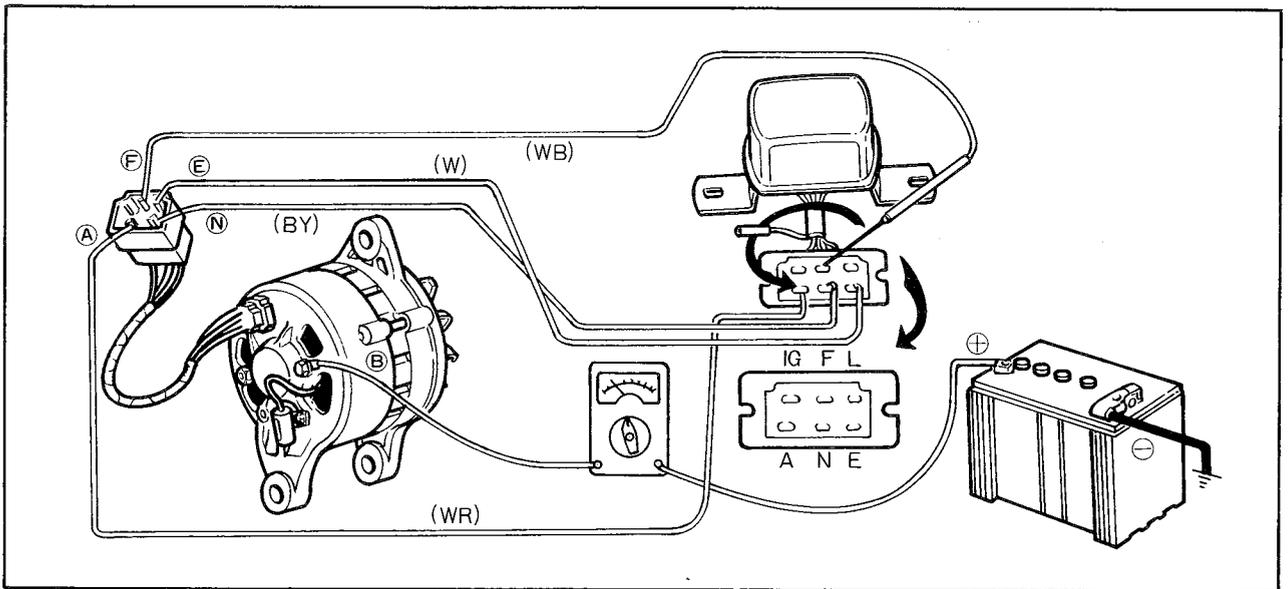

Fig. 5-2 Checking charging system
1. Disconnect the wire from "B" terminal of the alternator and connect the ammeter with the negative lead of the ammeter to the wire and the positive lead to the "B" terminal, as shown in Fig. 5-2.